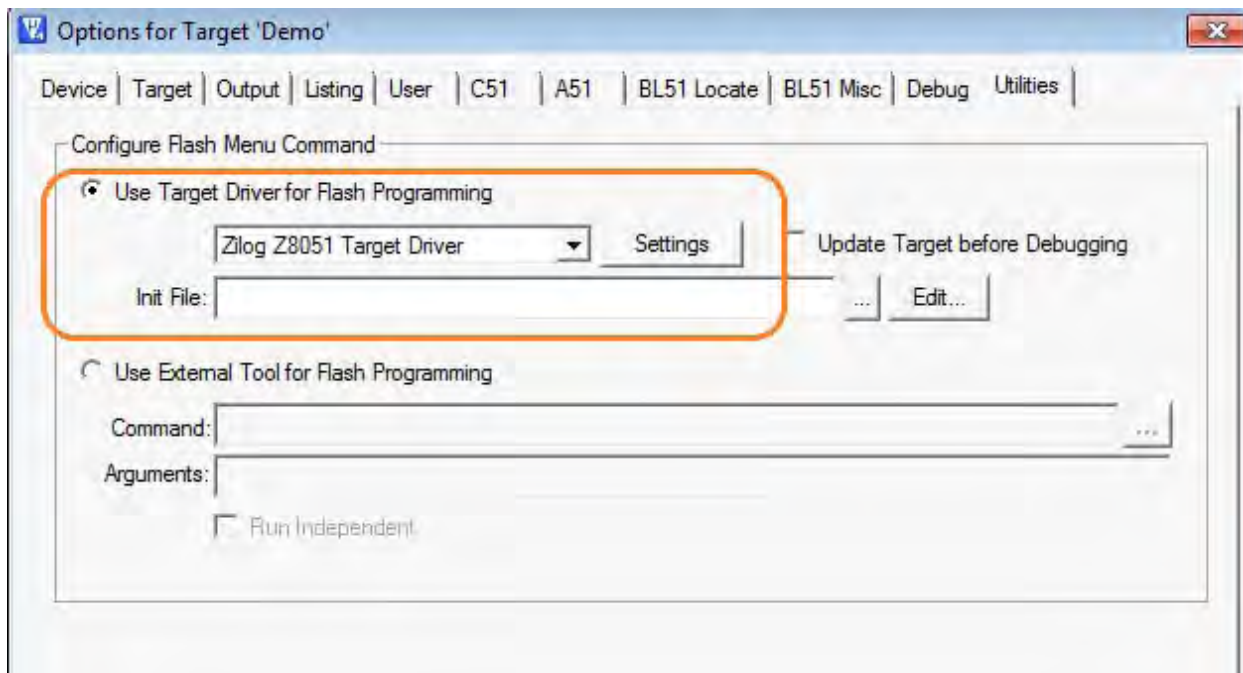

Figure 38. Selecting A Target Driver For Flash Programming
1. From the **Project** menu, open the **Options for Target 'your project'**, and click the **Utilities** tab. In the **Use Target Driver for Flash Programming** drop-down menu within the Configure Flash Menu Command pane, ensure that **Zilog Z8051 Target Driver** is selected, as indicated in Figure 38.